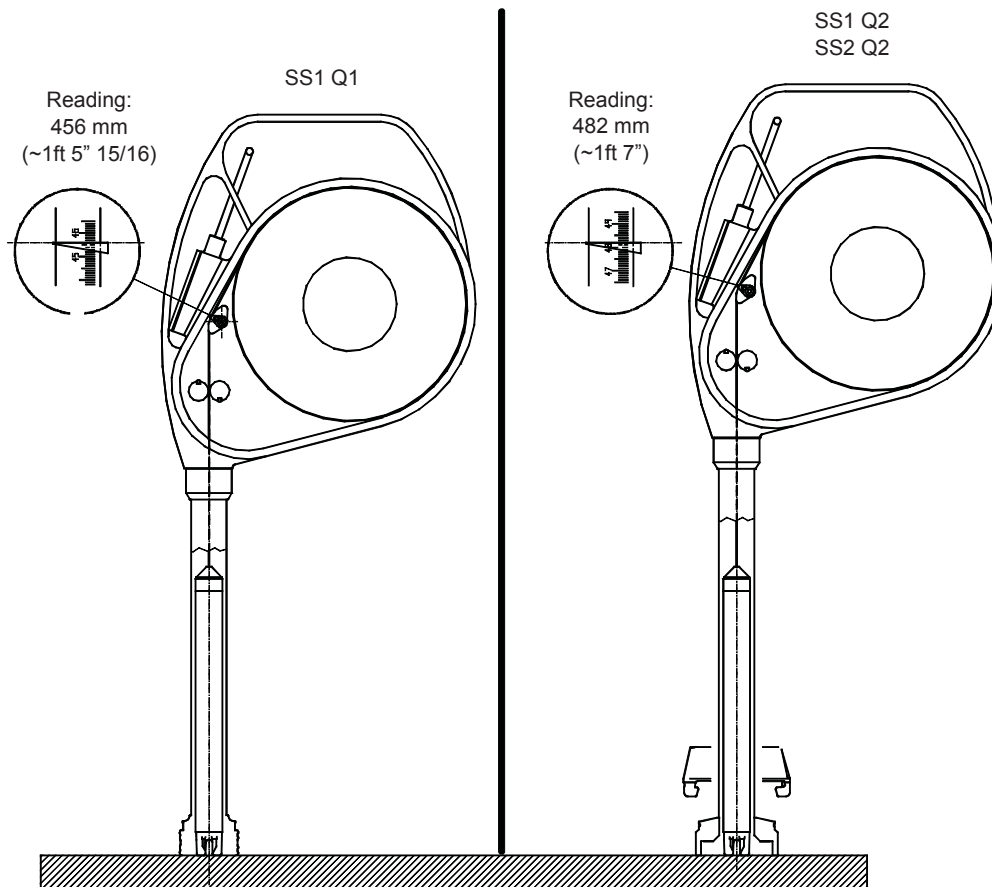

Figure 10-12
- If the equipment is fitted with a 2" connector (Q2) remove the clip and the collar as shown on Figure 10-12;
- Gently lower the tape until the sensor touches the surface (Figure 10-12);
- Adjust the index to the value corresponding to the connector Q1 or Q2, as shown on Figure 10-12;